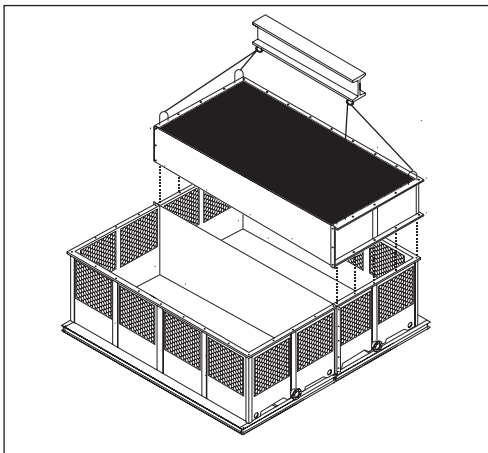

Figure A-28: Lower body section 1 installation for a Quadruple Fan Tower (RT-D)
- I. Only if your Tower is RT-D model:** This includes additional part of body section (Lower Body section). Place Lower Body section #1 on top of basin section #1, then bolt down and secure the horizontal flanges with the stainless steel nut and bolt sets supplied by REYMSA. See Figure A-28.